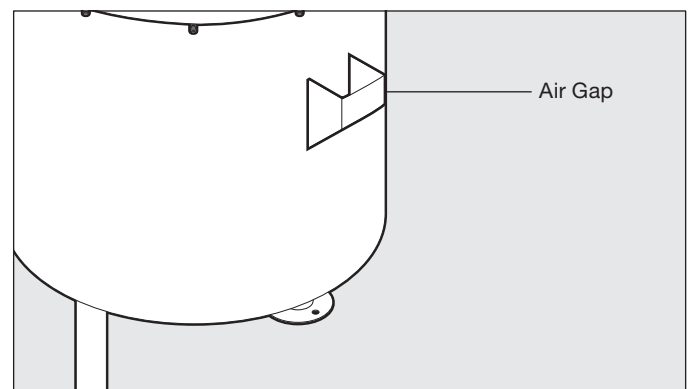

Figure 9. Air Gap
**IMPORTANT NOTE:** This air gap meets ASME A112.1.2-2012 standard and eliminates the need for a vacuum breaker installed with the system (see Figure 9).